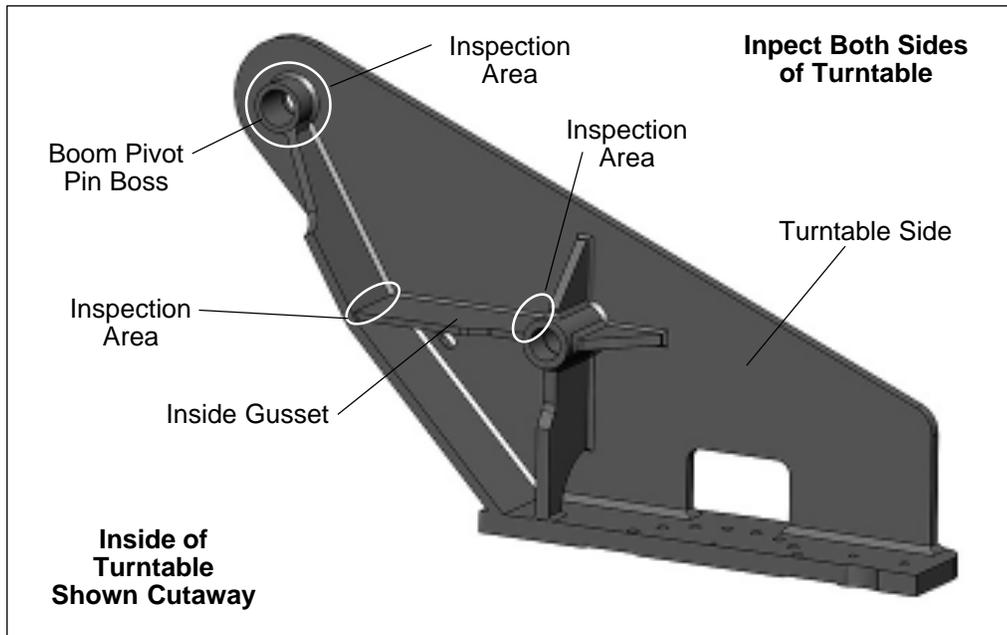

Figure 1 — Turntable Inspection Areas
3. Visually inspect the three areas inside of both sides of the turntable (refer to Figure 1) looking for any evidence of cracks. Look for chipped paint, corrosion or dark lines in areas where the boom pivot pin bosses or the inside gussets are welded together with other parts of the turntable. Scrape off the paint at any suspect area and inspect more closely for cracks.